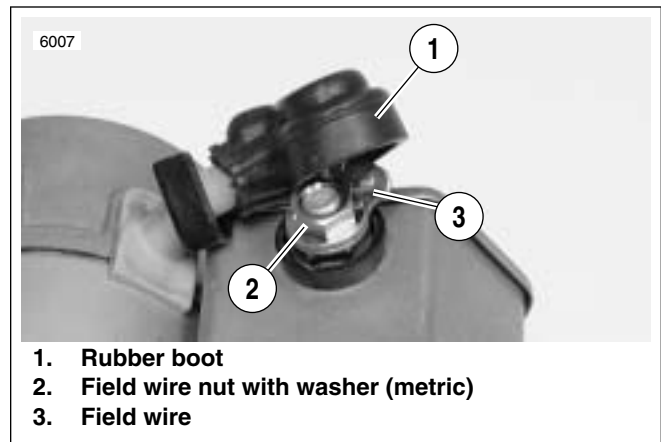

Figure 5-14. Field Wire
1. See Figure 5-14. Lift rubber boot (1). Remove field wire nut with washer (2) (metric) to detach field wire (3).